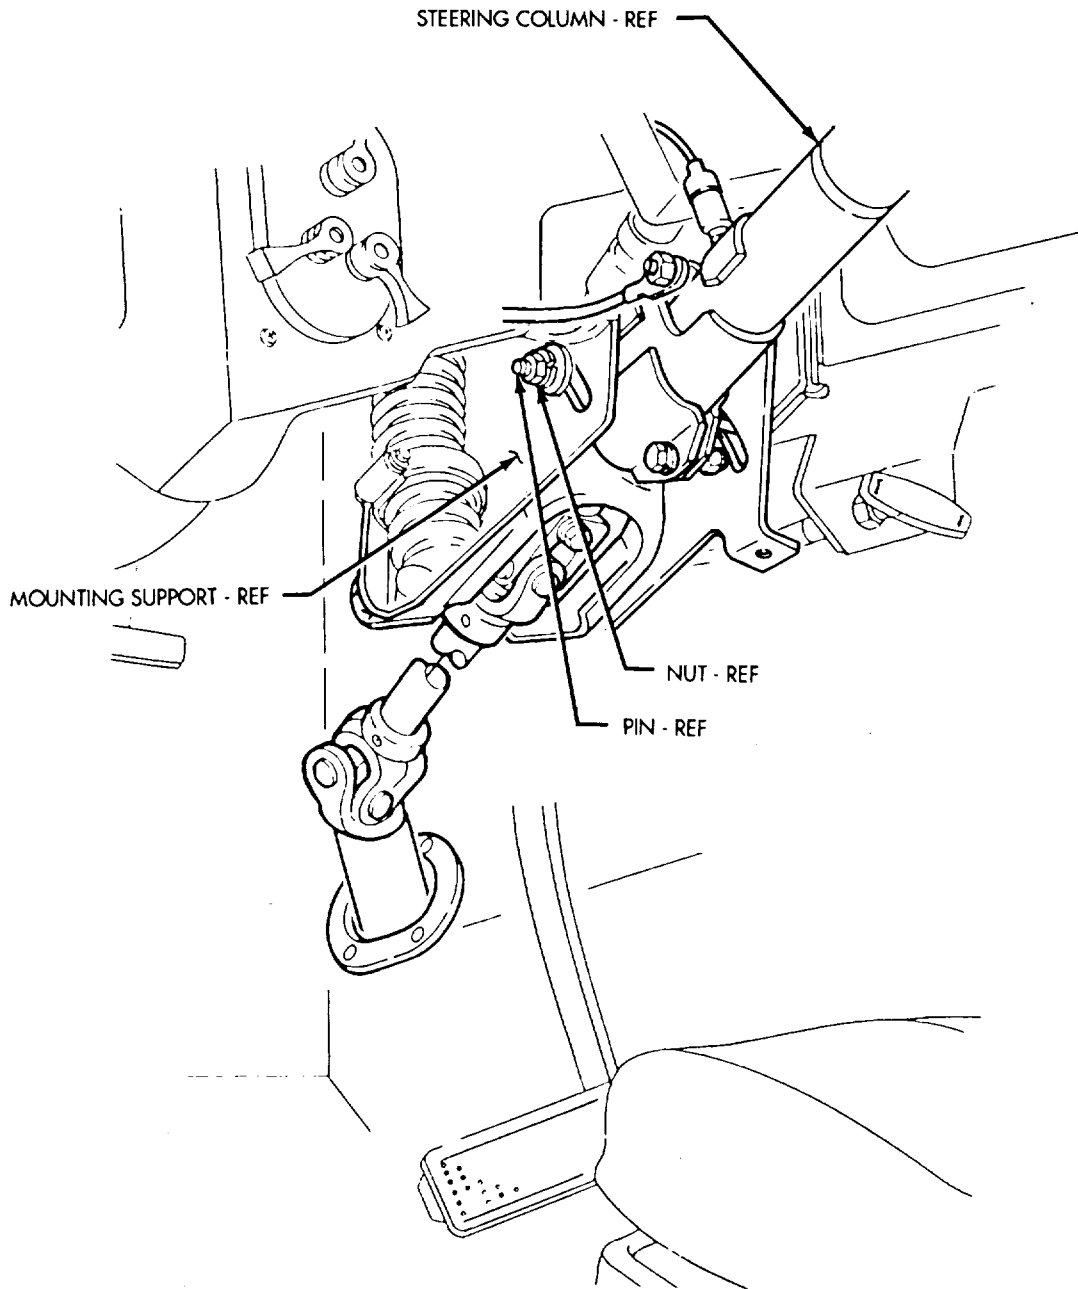

FIGURE 5
- (5) Place steering column and pin in upward position on mounting support until steering column cannot be raised any further as shown in figure 5. Tighten nut on pin to 14 lb-ft (19 N•m).
(6) If removed, install driver's side front door.
a. When installed correctly, the steering column brackets will appear as shown in figure 5.